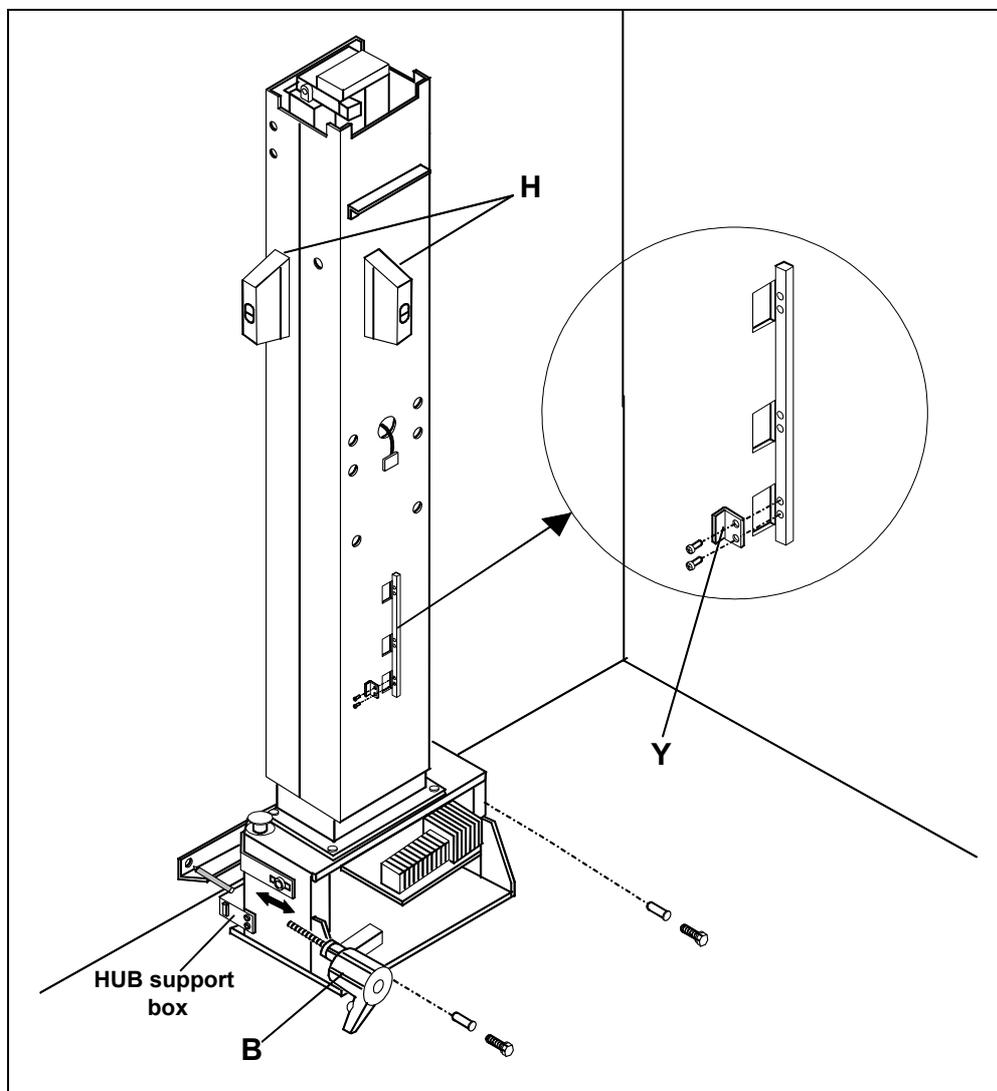

Figure 6-3
8. Install the HUB support box (normally resting on the side of the mains switch during shipment) in its location just under the exit of the mains cable (see previous Figure 6-3) and fix it with the two relevant fixing screws.
Whenever the stroke has to be reduced (e.g. in case of lower ceiling), act on plate "Y" (Figure 6-3), located on the front side of the column.